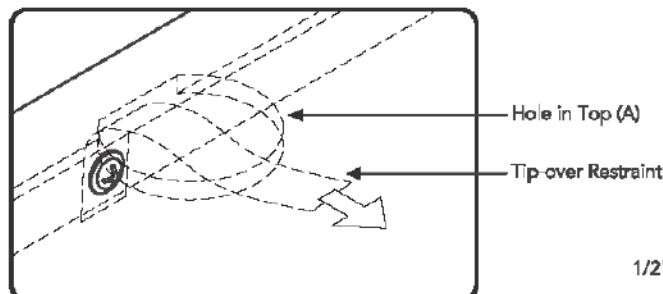

Figure 5
Move unit back into place and insert Tip-over Restraint into unit through hole in Top (A). (See Figure 5)